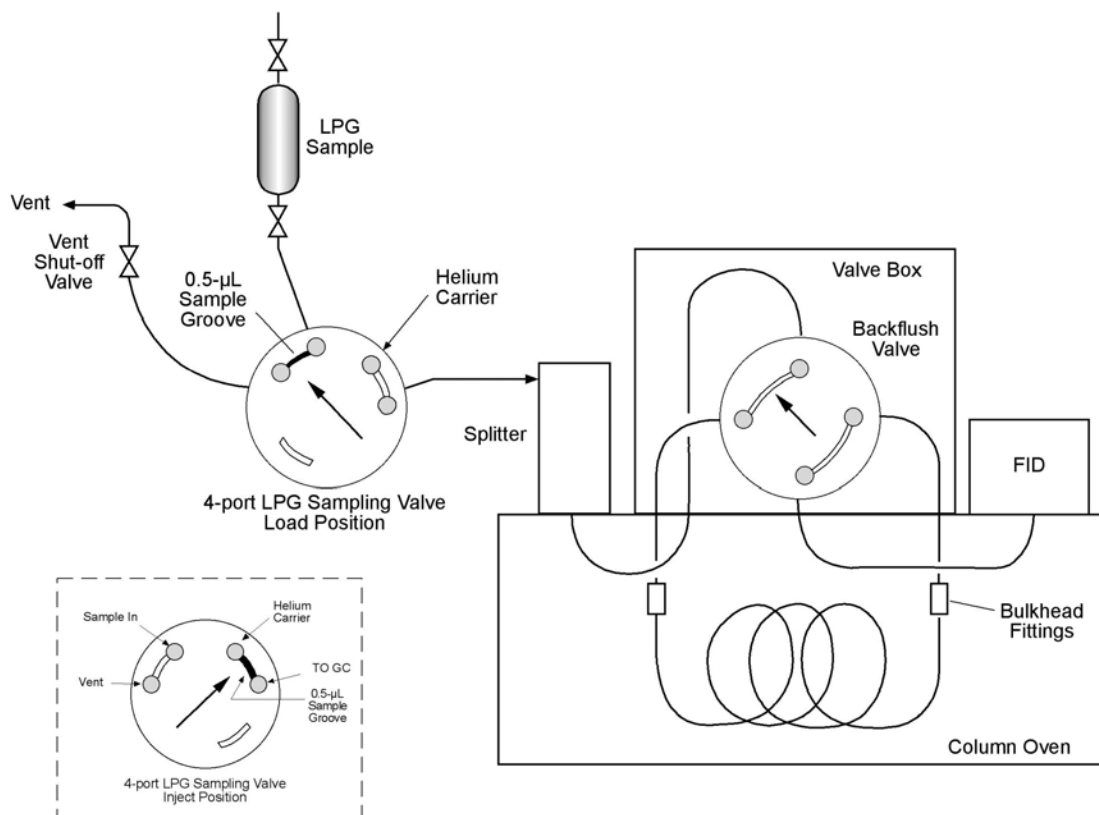

Figure 1
Fittings, bulkhead, 1.6-mm (1/16-inch) zero dead volume union with internal bore of 0.25 mm used as connection between fused silica and stainless steel tubing. Valco Instruments, Cat. No. ZBU1C. See Figure 1.
Injection apparatus, LPG, for injection of LPG samples in the liquid phase. See Figure 1.
2. Install the 4-port LPG sampling valve external to the GC near the split injection system. Connect the related apparatus as shown in Figure 1.